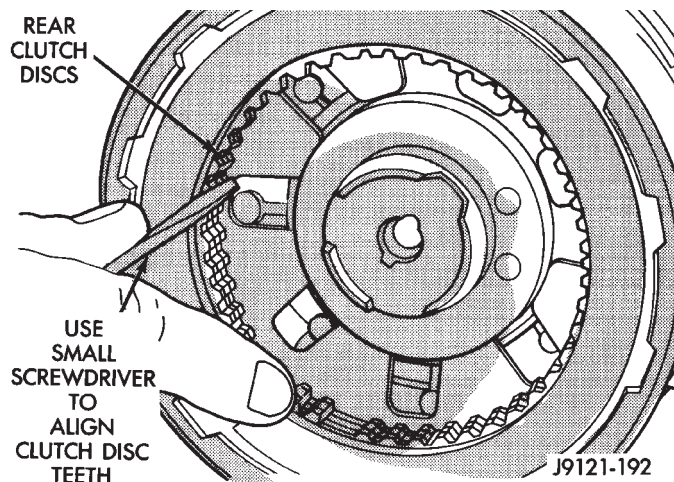

Fig. 127 Aligning Rear Clutch Disc Lugs
(15) Align drive teeth on rear clutch discs with small screwdriver (Fig. 127). This makes installation on front planetary easier.